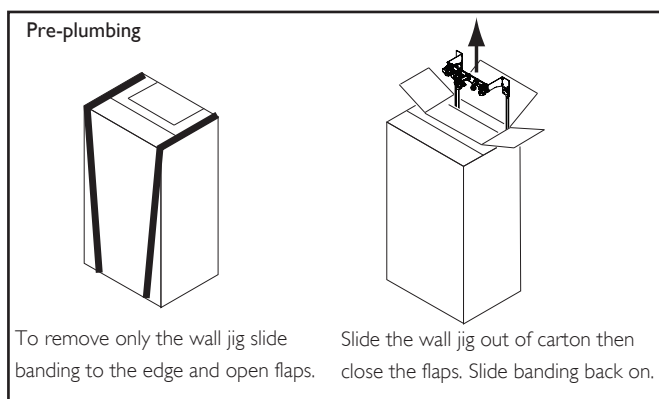

Fig. 16
3. If pre-plumbing (Fig. 16) - the wall jig and fitting kit can be removed without removing the carton sleeve. Simply slide banding to the edge and open the perforated flap, lift out the jig, fitting kit and instructions. If the boiler is to be installed at a later date, close the flap and reposition the banding straps, the boiler can now be stored safely away.